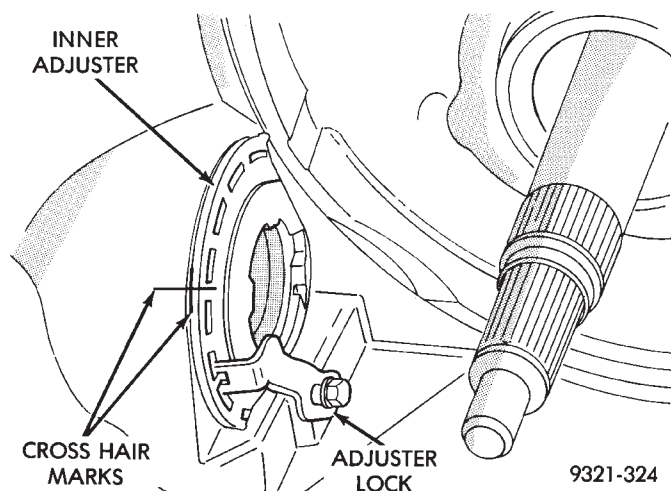

Fig. 61 Indexing Inner Adjuster
(3) Index the inner differential adjuster with a cross hair as shown in (Fig. 61).